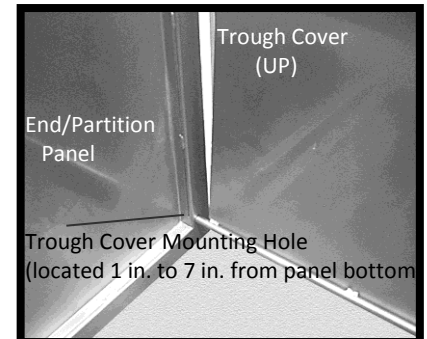

Figure 46: Trough Cover Mounting Hole
1. Drill a 13/32 in. hole in the inside face of both end/partition panels (Figure 46). The holes can be anywhere from 1 in. to 7 in. from the bottom of the panels, depending on your preference. **Note:** The higher the trough cover is mounted; the steeper will be its angle to the floor. The steeper the angle the better the water will drain from the cover.
1. Drill a 13/32 in. hole in the inside face of the end/ partition panel (Figure 46). The hole can be anywhere from 1 in. to 7 in. from the bottom of the panel, depending on your preference. **Note:**